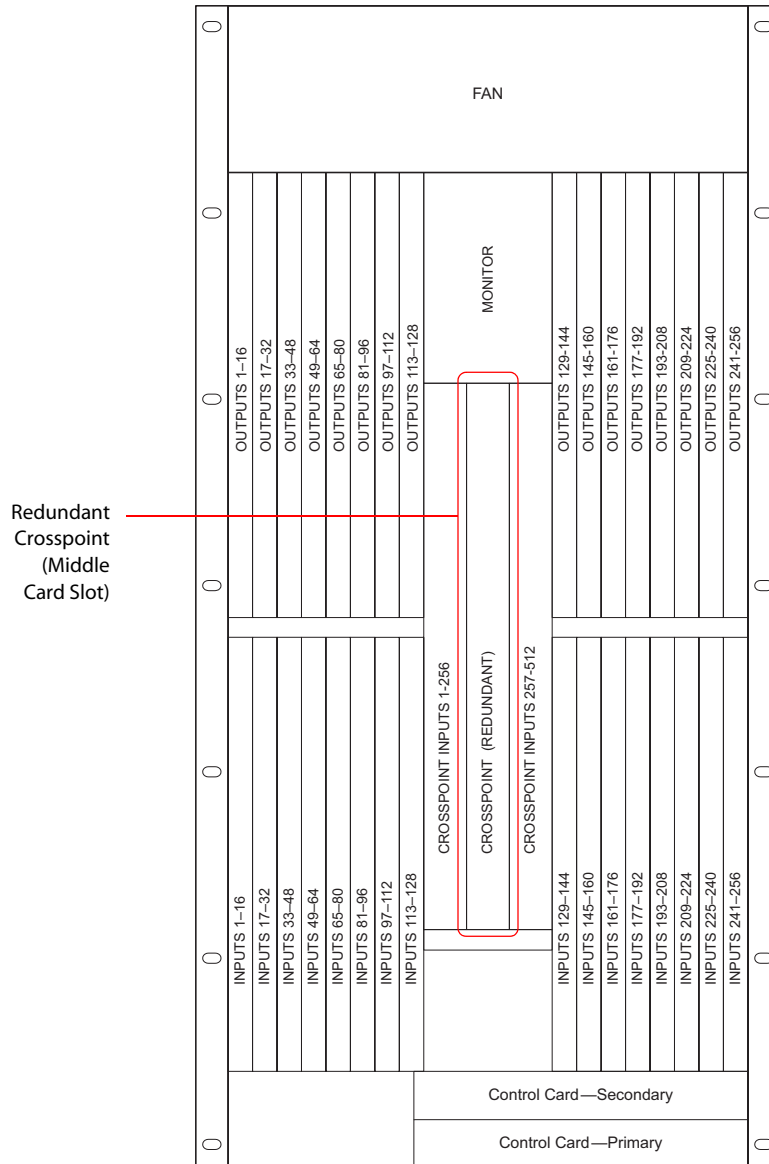

Figure 4-1. Location of Redundant Crosspoint Card (Front View)
The NV8256-Plus crosspoint card features four buttons located on the front of the card. When the card is installed in the *middle* crosspoint card slot—the slot for the optional, redundant crosspoint card—the buttons become active and can be used to change which signals the crosspoint card manages. (See Figure 4-1 on page 53.)
- 1 Facing the front of the router with the door open, locate the redundant crosspoint card, as shown in Figure 4-1.